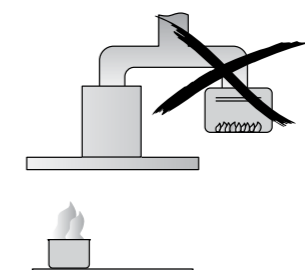

Fig. 1
- The rangehood air must not be discharged into a flue that is used for exhausting fumes from appliances burning gas or other fuels. (Fig. 1)